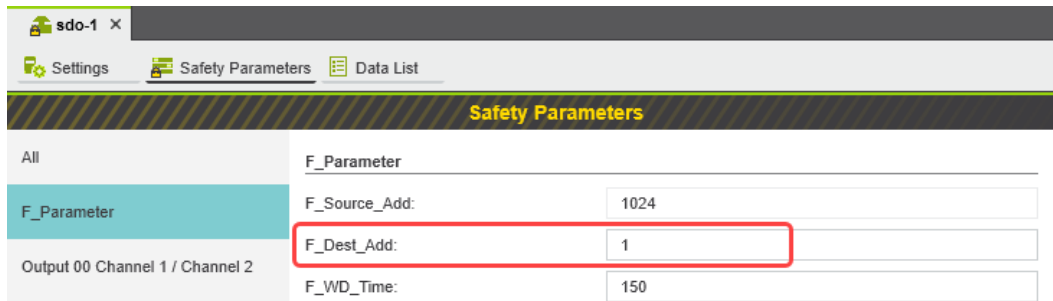

Figure 6-26 F-Address of the PROFIsafe F-Device: F_Dest_Add (F_Destination_Address)
- “1” for the AXL F PSDO8/3 1F (see Figure 6-26)